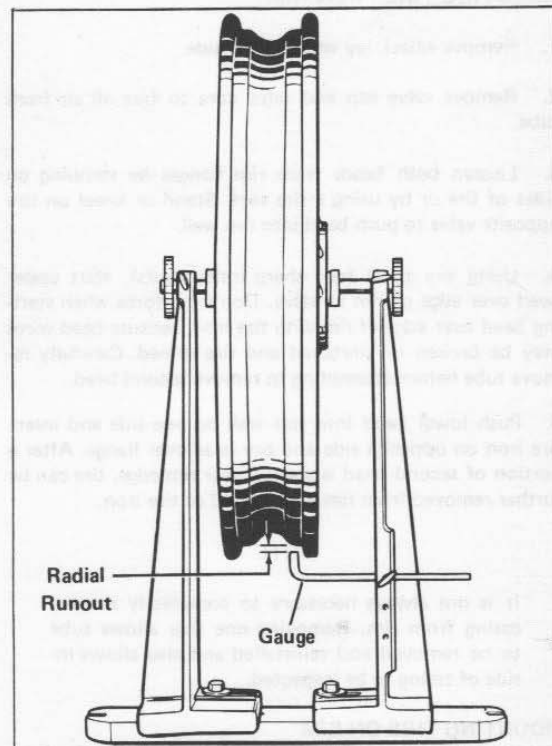

Figure 2-18B. Checking Cast Rim Radial Runout
2. See Figure 2-18B. Check for radial runout as shown here. Replace the wheel if runout exceeds $1/32$ in.